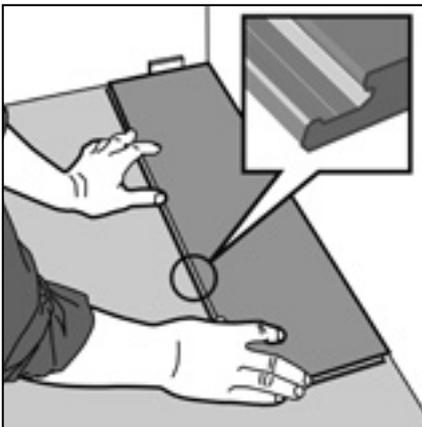

Figure 21 First plank, first row
- ▶ The plank are laid without adhesive. Start to lay the floor in the left-hand corner of the room with the lower male profile facing towards you (fig. 21).